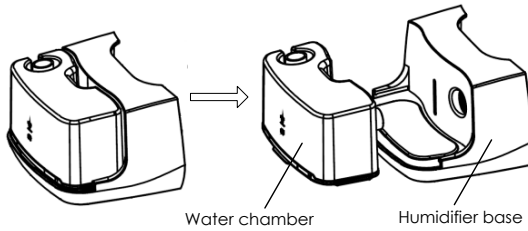

Figure 4-3
(1) **Remove the water chamber:** Place the humidifier on a flat platform. Press the water chamber and, at the same time, pull the water chamber and base of the humidifier apart in opposite horizontal directions, as shown in Figure 4-3.